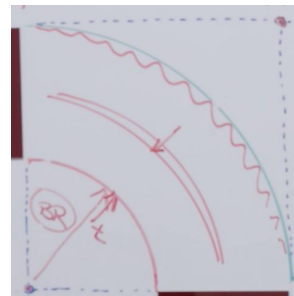

Figure 1.8
- The new position of this neutral axis is called the adjusted centerline, and it determines how much the material elongates during bending (see Figure 1.8).